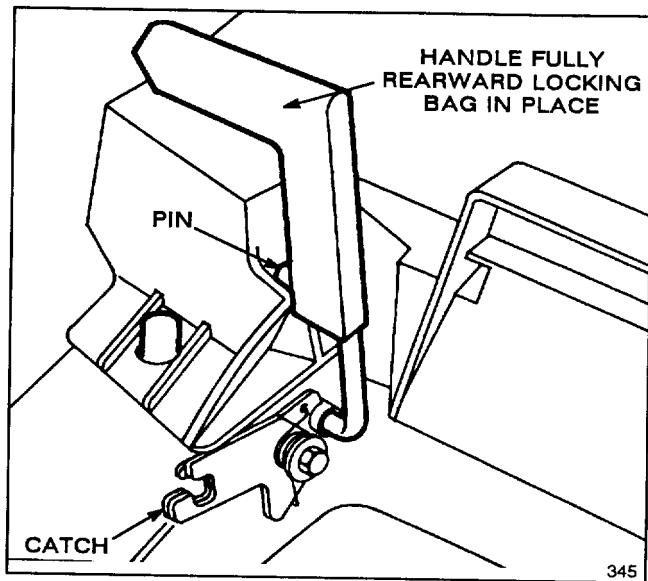

Figure 8
4. Pull discharge door handle forward until pin clears catch and move handle rearward until pin locks in bag notch (Fig. 8). Discharge door in mower housing is now open.